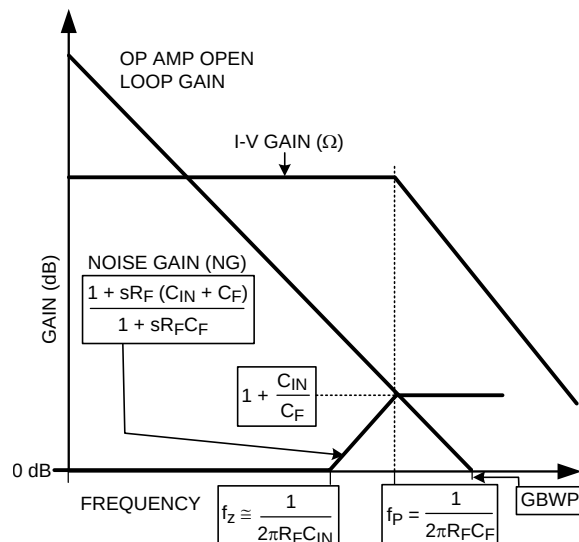

**Figure 61. Transimpedance Amplifier Noise Gain and Transfer Function**
Figure 61 shows the Noise Gain (NG) and transfer function (I-V Gain). As with most Transimpedance amplifiers, it is required to compensate for the additional phase lag (Noise Gain zero at  $f_z$ ) created by the total input capacitance ( $C_D$  (diode capacitance) +  $C_{CM}$  (LMH6629 CM input capacitance) +  $C_{DIFF}$  (LMH6629 DIFF input capacitance)) looking into  $R_F$ . This is accomplished by placing  $C_F$  across  $R_F$  to create enough phase lead (Noise Gain pole at  $f_p$ ) to stabilize the loop.